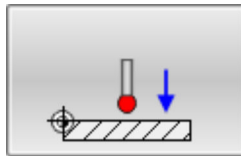

*Fig. 70: Reference point (example)*
8. ➤ Enter “0” in the input field (Fig. 70/2) to place the reference point on the milled surface.
9. ➤ Confirm with *[OK]* (Fig. 70/1).